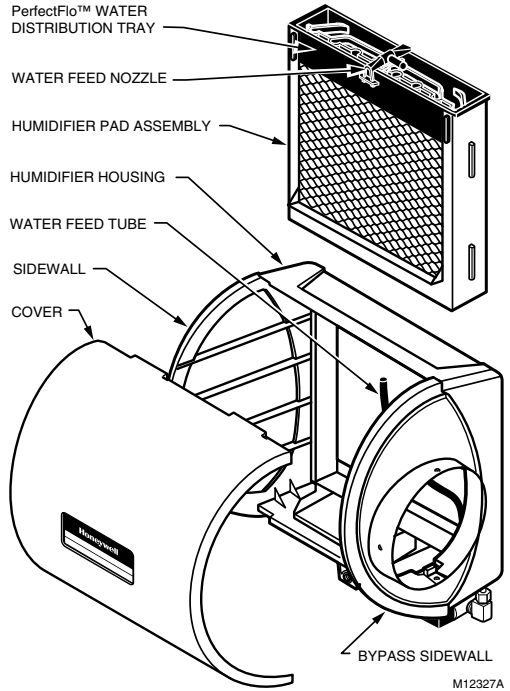

Fig. 17. Cleaning your humidifier.
2. Remove the humidifier cover. See Fig. 17.